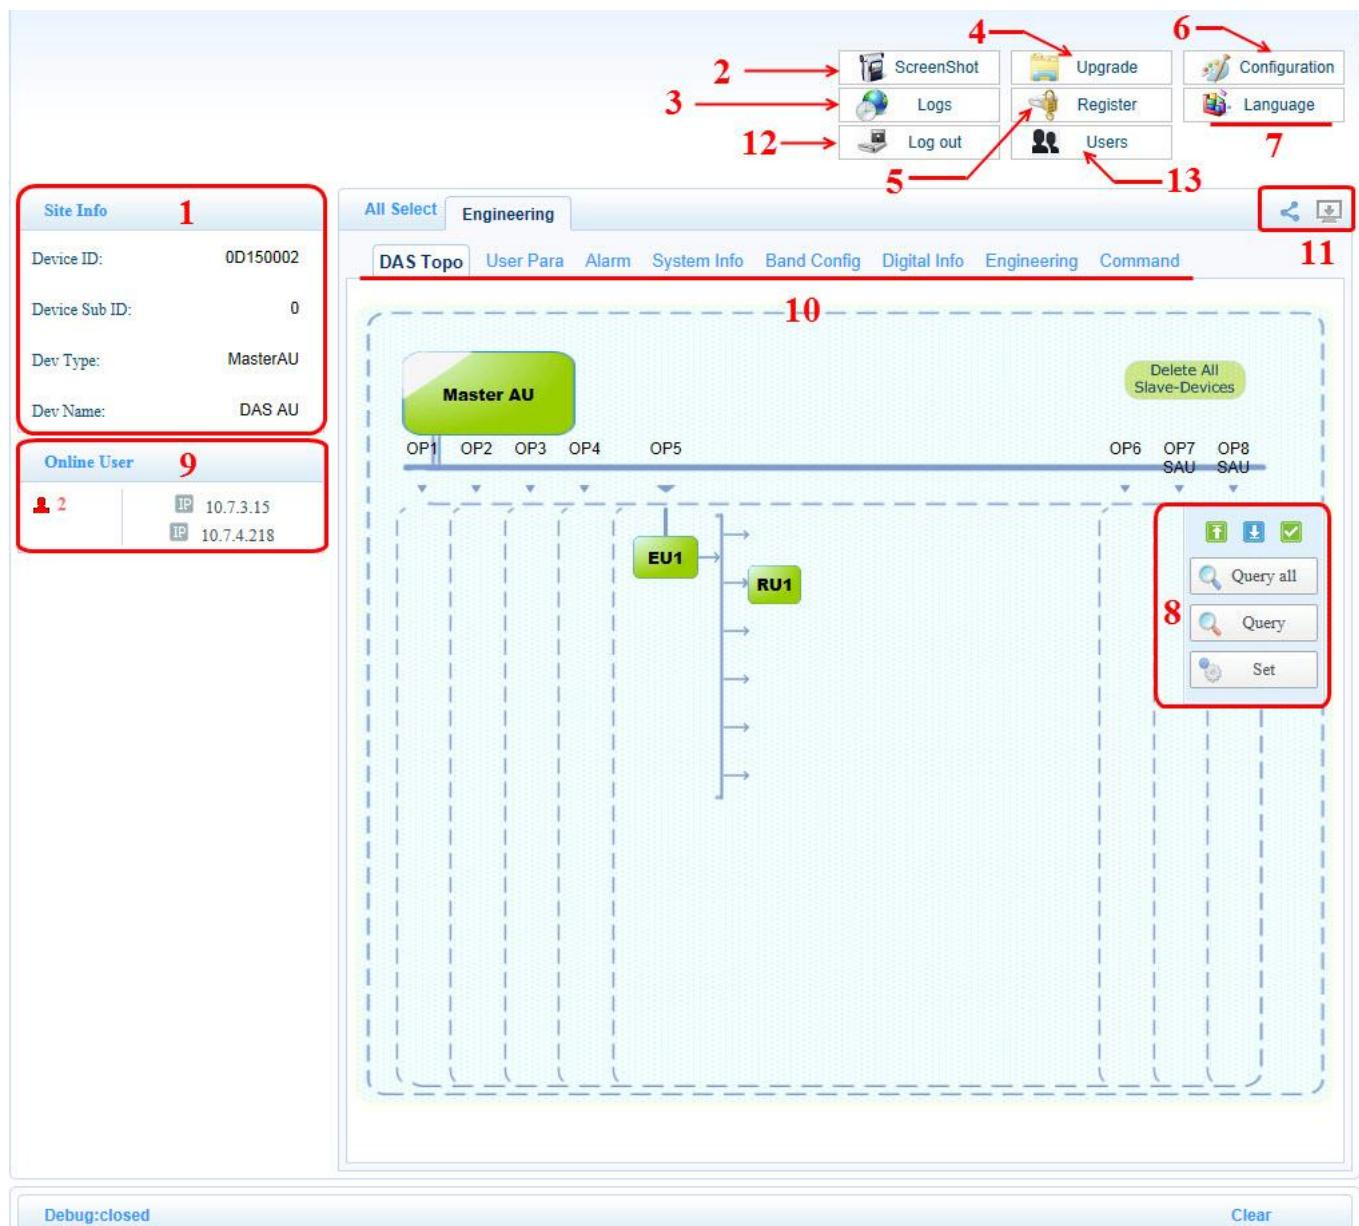

Figure 2-11 WebOMT Homepage
Figure 2-11 shows the OMT homepage. The buttons, tabs and fields are referenced by number and are described below the figure.
The OMT homepage includes the following buttons, tabs and fields (refer to corresponding numbers in Figure 2-11):
- b) Click the **ScreenShot** button. See **2** in Figure 2-11.
- d) Click the **Configuration** button. See 6 in Figure 2-11.